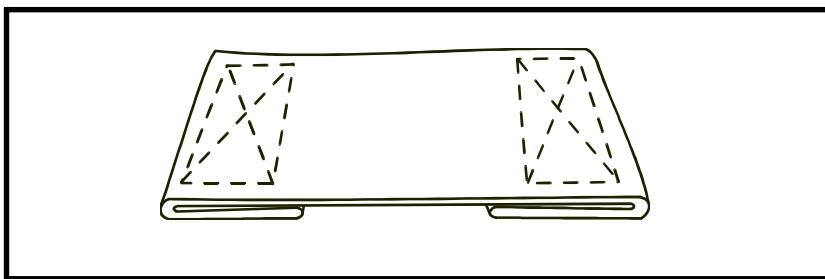

Figure 13-9. Flat loop
- a. Flat Loop. The flat loop (Figure 13-9) lies entirely against the canvas item. To make a flat loop-
- (1) Cut a piece of webbing the length of the planned loop plus enough to form a turnunder at each end.
- (2) Turn under the ends.
- (3) Sew the webbing to the canvas item with X-shaped seams.